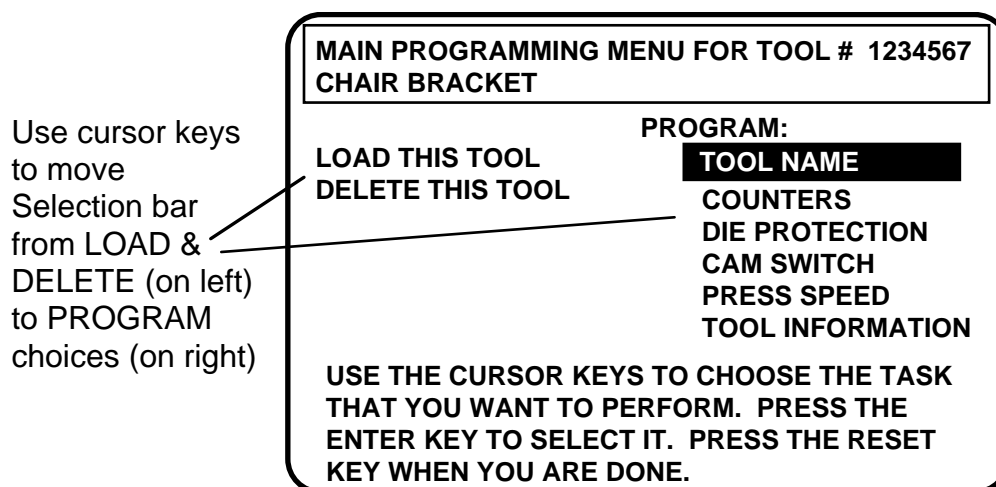

Figure 5-5. Main Programming Menu (the order may vary depending on the options installed)
3. Press Enter after keying in the tool number. You will see the Main Programming menu display (Figure 5-5). Once you are done, go to "Set tool name".
3. Press Enter to select the tool. The next screen that appears is the "Main Programming menu" (Figure 5-5). Next, go to "Set tool name".
1. Select "Counters" from the Main Programming menu (Figure 5-5):